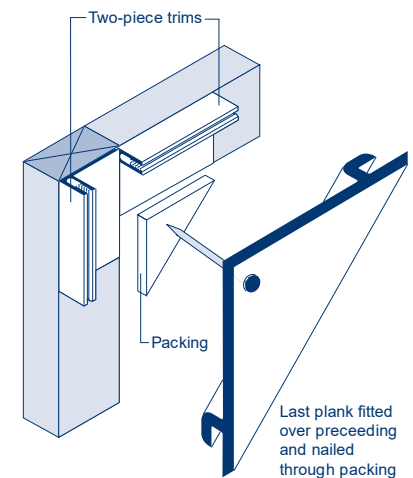

Fig. 36 Fitting the finishing plank
- The finishing piece, which will occupy the diagonally opposite corner, should be cut to size and fitted onto the tongue of the penultimate plank, then nailed using a packing piece if necessary (Figure 36).